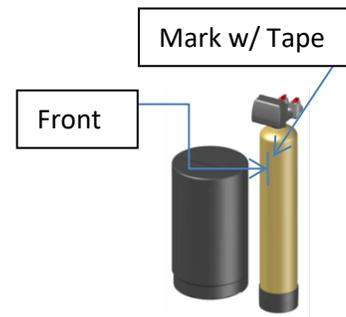

Figure 8: Softener Front
- c. Mark the “front” of each resin tank (shown in Figure 8) with either a marker or tape. The front of the resin tank is determined by the location of the face of the control valve once it has been secured to the face of the control valve. Make sure that the system is positioned in a way that the plumbing can be installed.
- c. Cover the exposed end of the distributor riser(s) to make sure no resin gets inside. Covering up the riser(s) with duct tape is one option, shown in Figure 8.